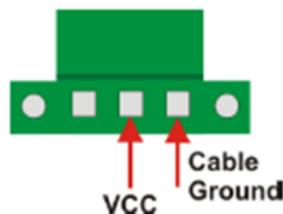

Figure 7 – MBB200C Power Terminal Block
- 1) Directly with 9-32VDC power source using the green power terminal block found on the rear panel of the MBB200C (see Figure 7).